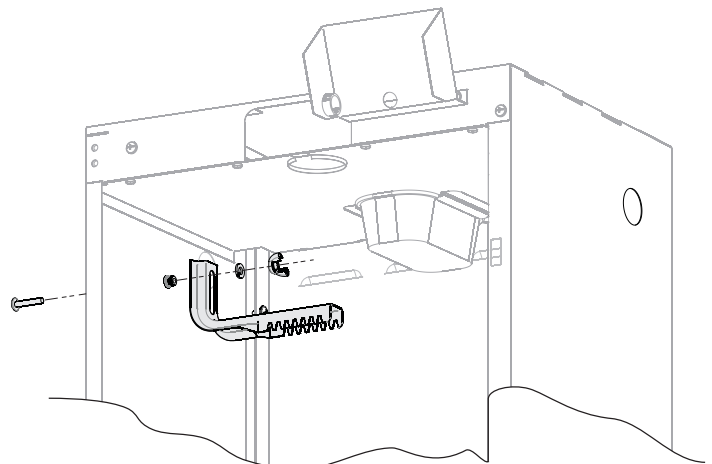

Figure 15
24. Secure a 1/4-20 x 1-1/4 screw to the knurl nut in the Left Panel side. Slide the Tank Retainer Bracket on the screw and secure it with a lock washer and wing nut. See Figure 15.